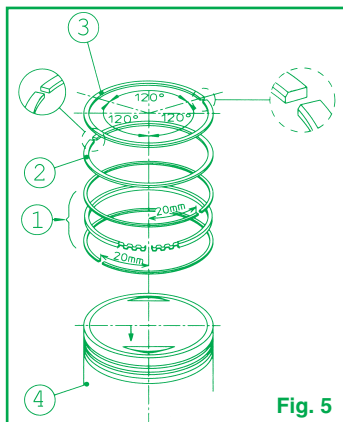

Fig. 5
- Fit the scraper ring expander in the special piston groove, then complete the scraper ring assembly by fitting first the lower and then the upper scraper ring (Fig. 5 - Part. 1).
- Fit the second piston ring with the printing turned towards the piston upper part as indicated in Fig.5 - Part. 2.
- Fit the first compression piston ring with the printing turned towards the piston upper part as indicated in Fig.5 - Part 3.
- Position the piston ring openings as shown in Fig. 5.
- Recheck that the piston rings openings are positioned as shown in Fig. 5.